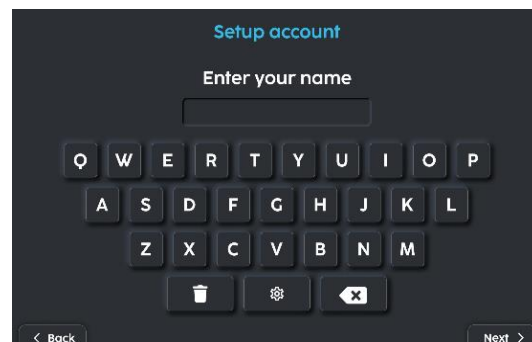

FIGURE 3-8
4. Enter your account name (Fig. 3-8).